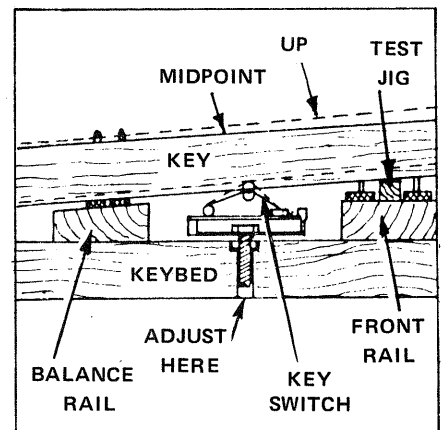

FIGURE 9-63 Key Switch check.
Place the Test Jig on the Front Rail between the Black and White Key Punchings (see FIGURE 9-63). As you SLOWLY depress Key 5, observe its Key Switch and note whether the Key Switch makes contact as or before Key 5 touches the Jig or if it does NOT make contact at all. Repeat this procedure at each of the four (4) Action Post Keys and at Key 84. See the NOTE below.